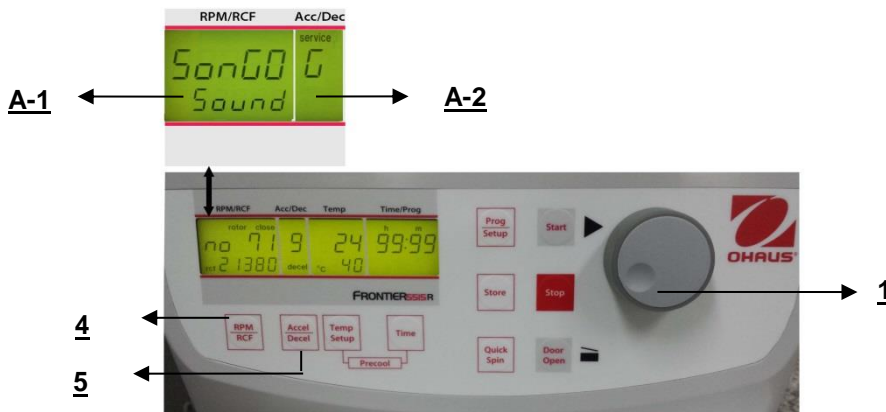

Figure. 35
Proceed as described under point 4.1.2 to enter this program mode and then press the key "Accel/Decel" (5). In the display "Acc/Dec" (A-2) the word "Service" flashes. Now select the letter "G". with the adjusting knob (1). As a result, in the display "RPM | RCF" (A-1), the word "SonGo/Sound" appears. After pressing the key "RPM | RCF" (4), you can select a song with the adjusting knob (1). (See figure 35). After you have stored the settings (see 4.1.2) you can change back to the normal program mode again by switch off the centrifuge for a short while.